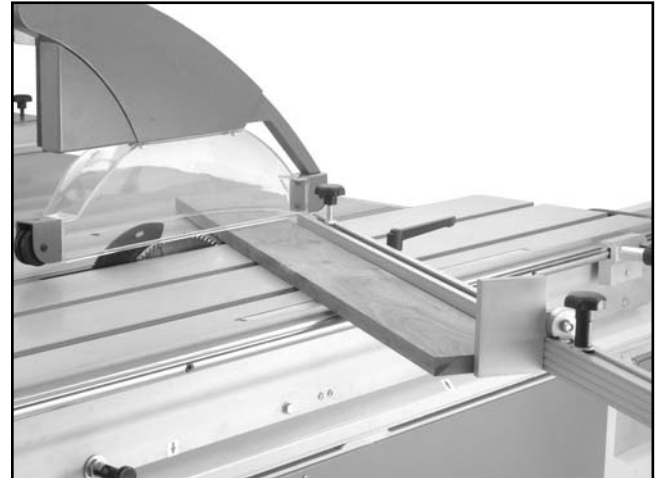

Figure 74. Example of miter cutting operation for a cut length less than 45".
The miter fence allows miter cuts from 30° through 135° on boards ranging in length from 9½" through 86½". The table mounted miter scale has a resolution of ½°. Either end of the flip stop slide into the end of the miter fence to accommodate cut off lengths both over and under 45" as shown in **Figure 74 & 75**.
6. Load the workpiece onto the table saw. The set up should look similar to **Figure 74 or 75**.